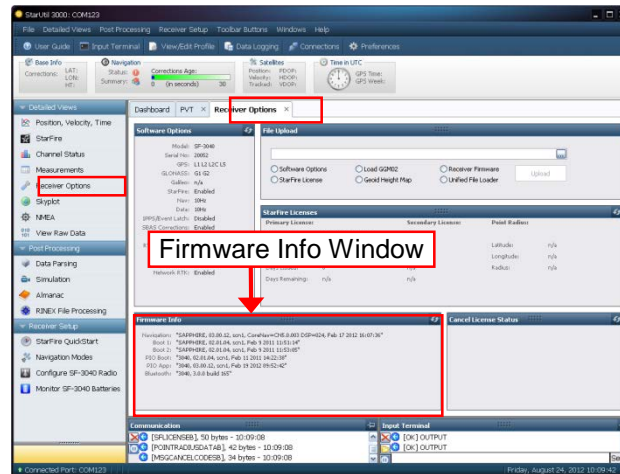

Figure 7: Access to Receiver Options Tab
In StarUtil 3000, checking the contents of the *Firmware Info* window (see Figure 7) on the *Receiver Options* tab is the easiest way to determine if the installed firmware is the most current. An alternative method is to use the *Input Terminal* window (see Determine Firmware Version via the Input Terminal, below).
- Click *Receiver Options* on the *Detailed Views* menu to open the *Receiver Options* tab (see Figure 7).